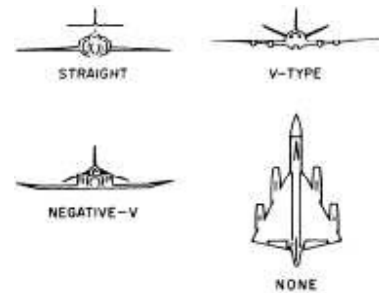

Figure 35.—Horizontal stabilizers.
3. Tail. The tail is the after part of an aircraft and generally consists of stabilizers, elevators, fin, and rudder. See figures 35 and 36 for the various types of horizontal and vertical stabilizers of the tail assembly.